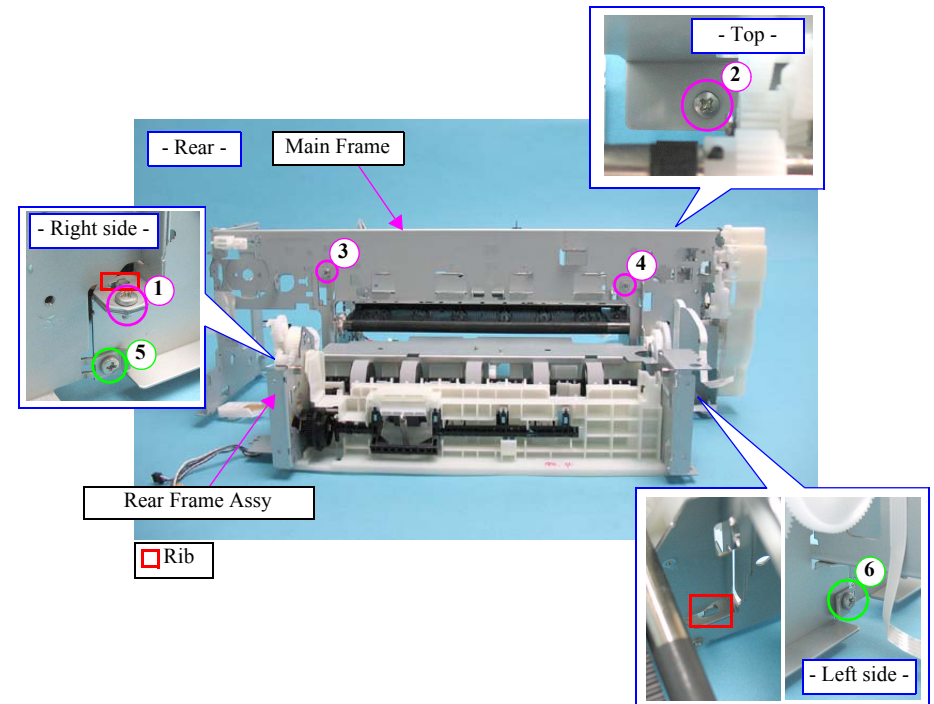
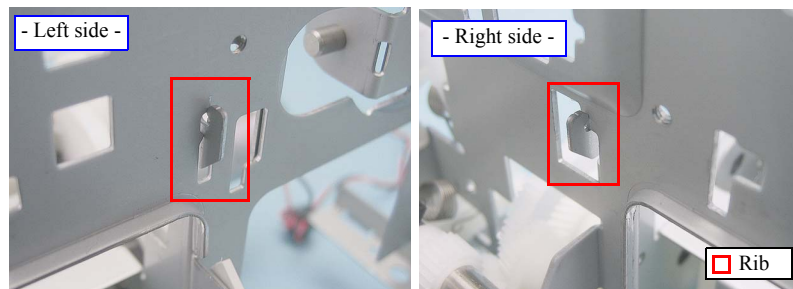
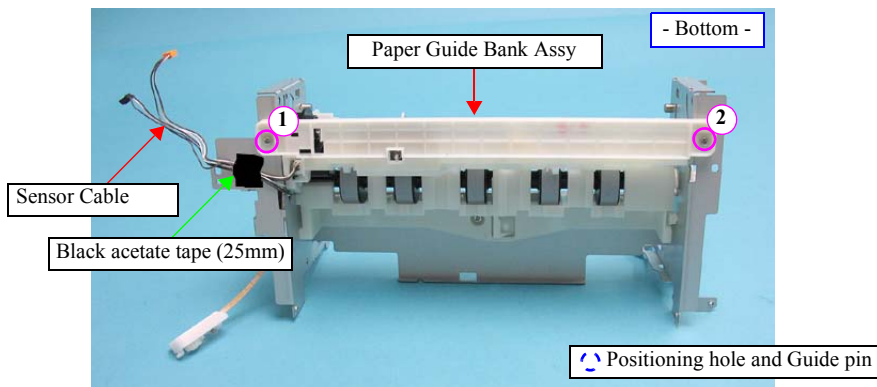

Figure 4-196. Removing the Rear Frame Assy (3)
Figure 4-197. Removing the Rear Frame Assy (4)
Figure 4-198. Removing the Paper Guide Bank Assy (1)
- When installing the Rear Frame Assy, make sure to properly engage its four ribs with the positioning holes of the Main Frame as shown in Figure.4-196 and Figure.4-197.
- Secure the two sensor cables with acetate tape at the position shown in Figure.4-198.
- Tighten the screws in the order indicated in Figure.4-196 and Figure.4-198.